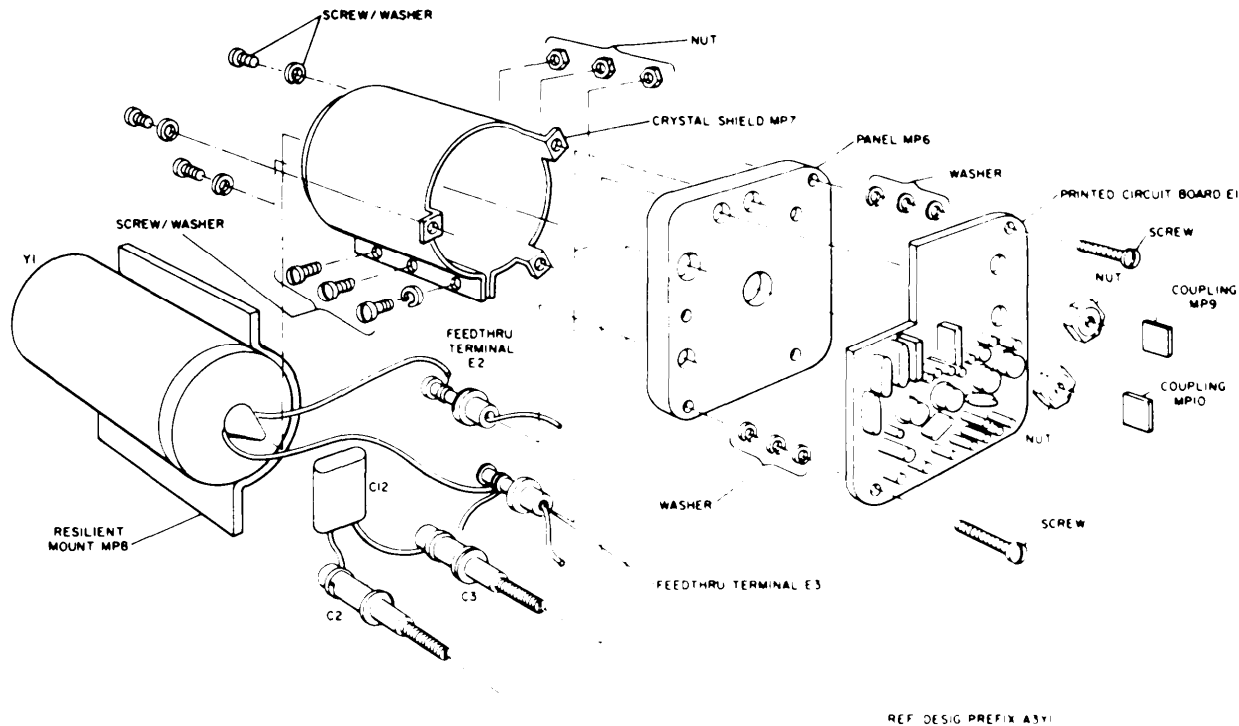

Figure 5-26. Disassembly of Frequency Generator
(1) Perform the procedure of steps (1) through (4) of paragraph ae.
(2) Remove all connections from the three leads of the transistor to be replaced (figure 5-26). Code-mark connections to insure proper reassembly.
(3) Remove and save the disc insulator (A3Y1MP13 through 15).
(4) Place crystal oven into a temperature chamber preheated to 225°F.
(5) Leave crystal oven in the temperature chamber for approximately 1/2 hour; then remove it.
(6) Note orientation of transistor with respect to the crystal oven.
(7) With a small pair of long-nosed pliers grasp all three transistor leads; using edge of crystal oven as a pivot, pry the transistor gently but firmly out of the crystal oven.
(8) Apply Epoxy Adhesive, Type 1 Mil-S-8623, into the opening in the crystal oven which houses the transistor.
(9) Place crystal oven into a temperature chamber preheated to 225°F, and leave it there for approximately 15 minutes to cure.
(10) Remove crystal oven from temperature chamber